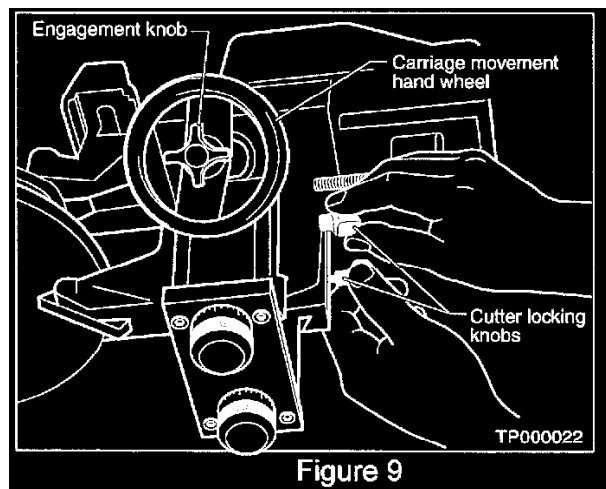

Figure 9
14. Tighten the cutter locking knobs (see Figure 9).
17.    Tighten the engagement knob in the center of the carriage movement hand wheel (see Figure 9) to start the cutting process. When the cutting bits clear the outer edge of the rotor, loosen the engagement knob to stop the carriage movement.